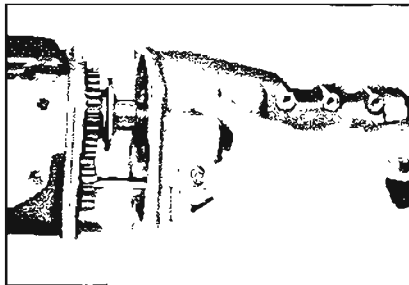

Figure 4-68—Installing Extension To Case
17. Place the two clutches in neutral position. Pull reverse shifter shaft to left side of extension and rotate shaft to bring reverse shift fork as far forward in extension as possible. Start the extension onto the transmission case (Figure 4-68) while slowly pushing in on the shifter shaft to engage the shift fork with the reverse gear shift collar. When the fork engages, rotate the shifter shaft to move the reverse gear rearward, permitting the extension to slide onto the transmission case.